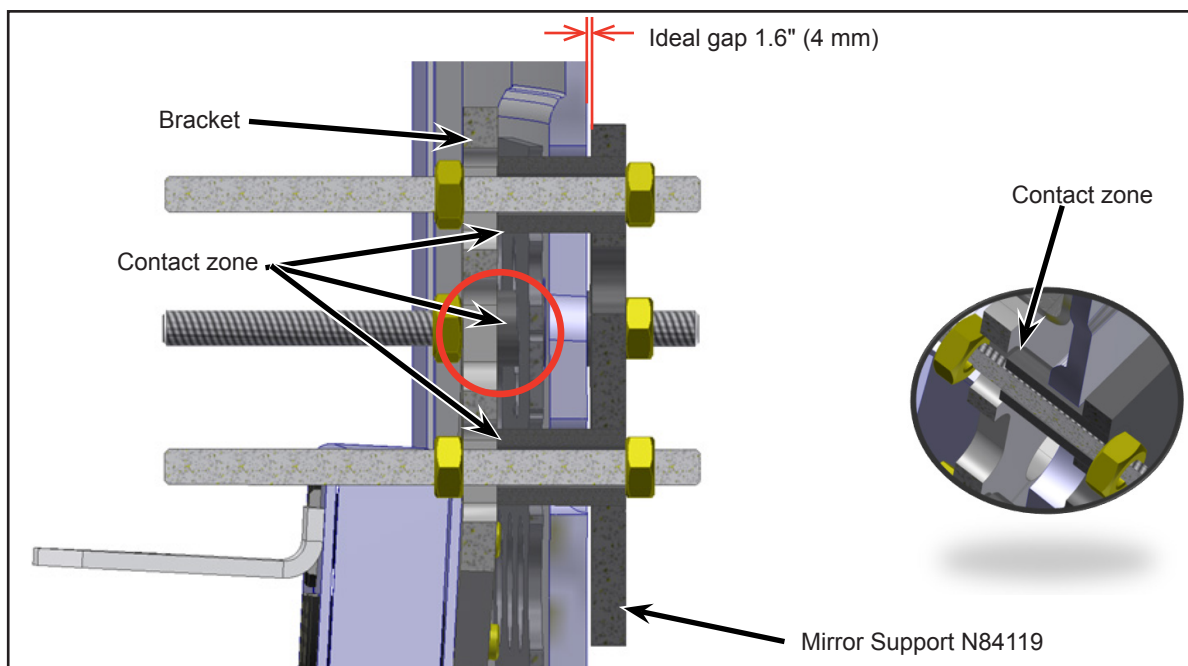

*Figure 20 - Ideal Gap Measurement Between Bushings and Support Mirror*
- 1.23. Install nuts N16648 (3x). Validate contact between bushings and bracket. Measure gap (Gap MIN 0.12" (3mm) / MAX 0.19" (5mm) when bracket N84117 is in place and held with rods) (see Figure 20).